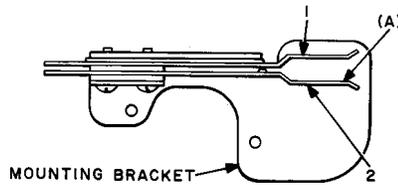

Fig. 8—Sleeve Cutoff Jack Assembly
2.23 Contact Pressure: Fig. 8(A)—The contact pressure measured at the bend near the end of spring No. 2 shall be